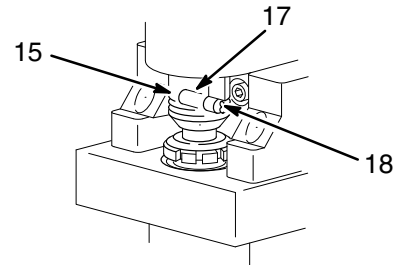

Fig. 20
2. Try to stop the pump with the piston rod (107) in its lowest position. To lower the piston rod manually, rotate the motor fan blades. Use a screwdriver to push the retaining spring (18) up and push out the pin (17). See Fig. 20.